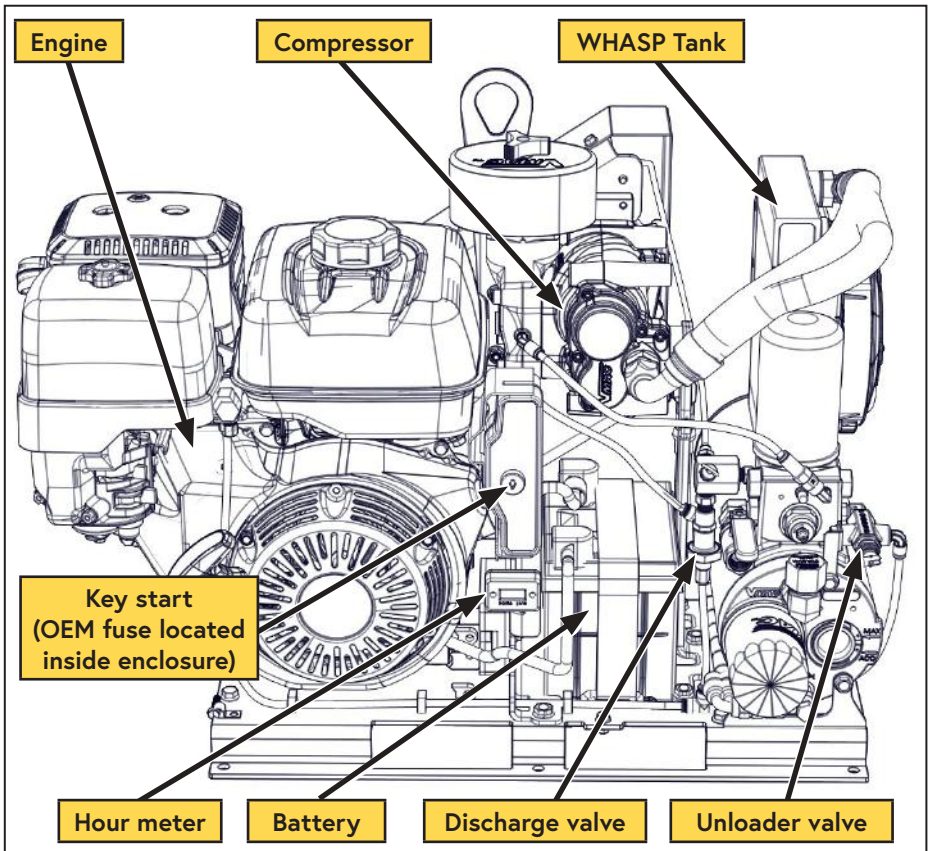

Figure 9 — System overview (shroud removed for clarity)
- The unloader valve should be manually activated to aid start up; this will reduce the load on the compressor, resulting in less load on the engine during warm up (Figure 9 on page 27).
System Components (Front) (Figure 9)